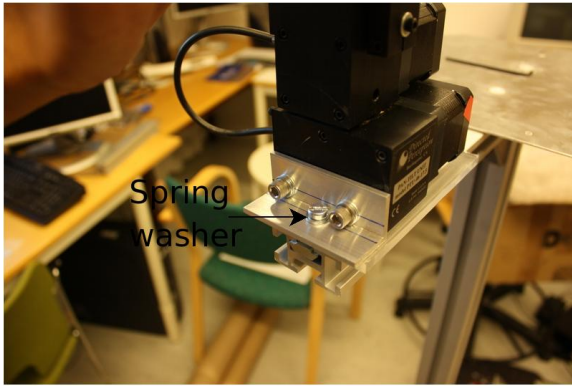

Figure 36: PTU mounting #1
6. Fix the PTU unit using the hole at the front of the PTU base plate with a **M6x16 slot screw** and a **spring washer** (figures 36 and 37). You should have received the PTU with an L-bracket already mounted on it. The side edges of the PTU should be parallel to the edges of the top beam. *Since the PTU is mounted using a single screw and spring washer, this is your chance to orient it such that faces the front of the robot properly, regardless of any positioning errors you made in the previous assembly.*